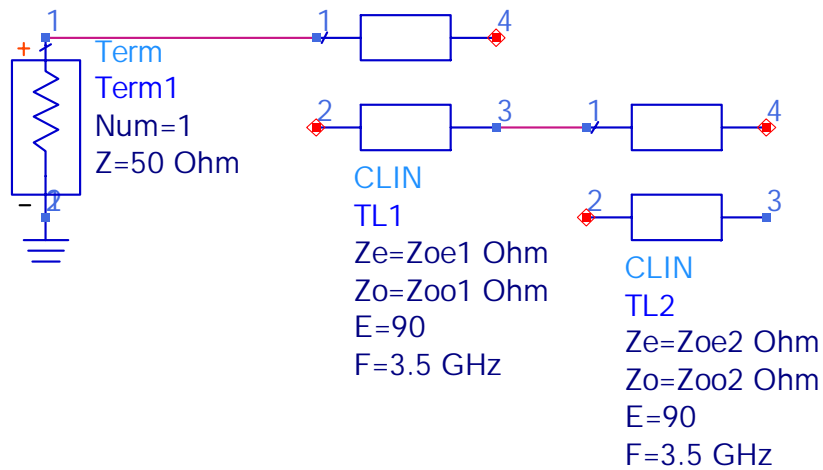

Figure 1. Partial schematic for band-pass filter using ideal coupled transmission line elements.
- 2) Create a schematic representation of the filter using ideal transmission line components (see Figure 1). In what follows, this schematic is referred to as lab4\_ideal\_1.